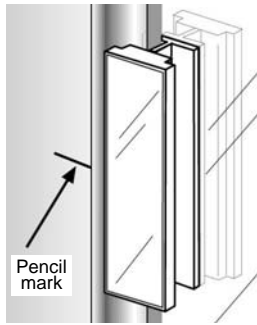

Figure 5
- C. The Magnetic Catch (#4) will be installed directly behind the Magnetic Catch Plate with 2-way tape (#5). With the Wardrobe Door (#1) closed, make a small pencil mark on the wall, centered on the Magnetic Catch Plate with 2-way tape (#5) (See Figure 5).